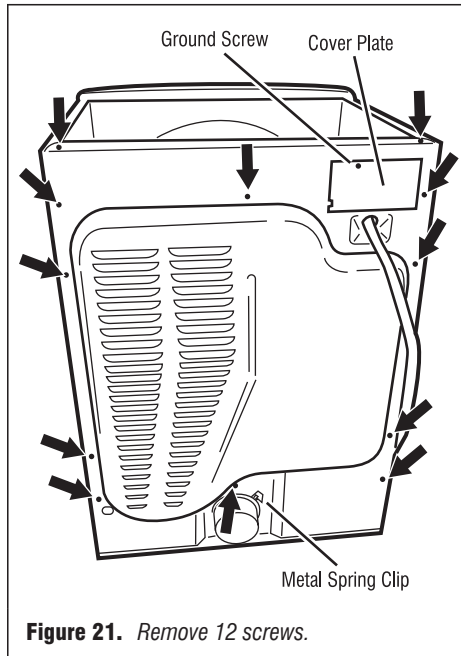

Figure 21. Remove 12 screws.
4. Remove the metal spring clip between the back panel and the exhaust outlet. See figure 21.
5. Remove the ten screws on the rear, and two screws on the top of the back panel. Pull the back panel off the dryer. See figure 21.